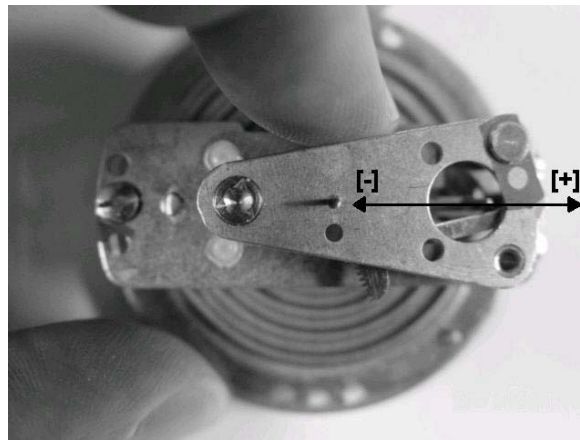

Figure 3-13. S&K span adjustment.
18. If the span is too high, using calibration tool (T18816), bend the adjustment pin towards the pinion parallel to the gear sector when pressurized at 300 mmHg. Change the pressure to 0. Make sure to re-adjust the test dial so that the pointer will be slightly left of the graduation line. Re-pressurize to 320 mmHg then to 300 mmHg to evaluate effects of adjustment. See Figure 3-13.